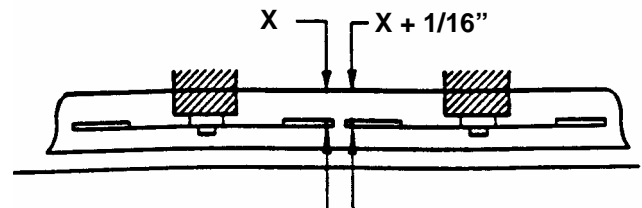

FIGURE 4.8
14. Rotate blade until blade cutting edges "B" are together. See Figure 4.8.